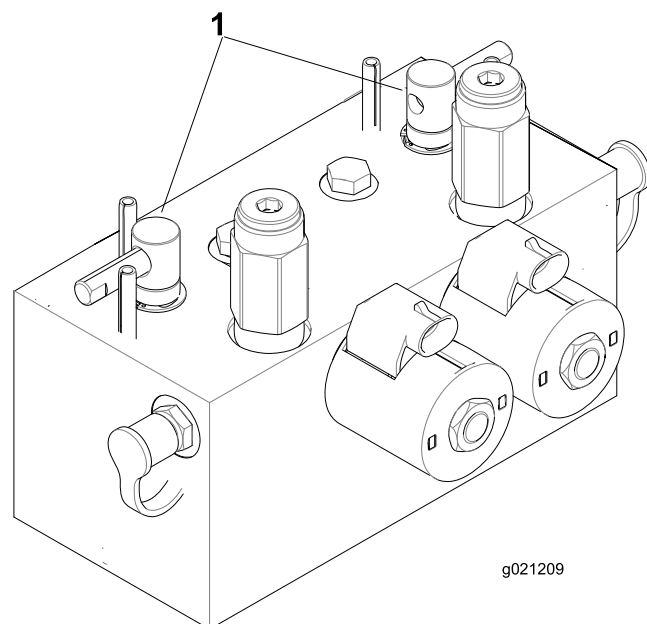

Figure 109
2. Unlock and raise the seat to expose the backlap levers (Figure 109).
5. Select either front, rear, or both backlap levers to determine which units to backlap (Figure 109).